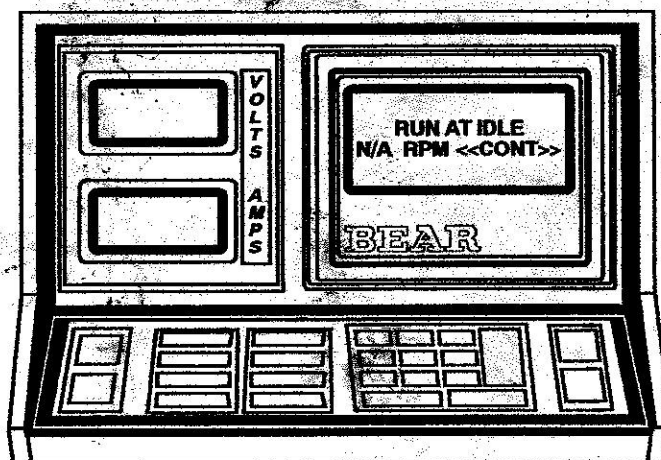

Figure 20
2. Hold the engine speed at approximately 2000 RPM until the display reads "RUN AT IDLE" (see Figure 20). Then set engine at idle and press [CONTINUE]. The remainder of the charging test runs normally.